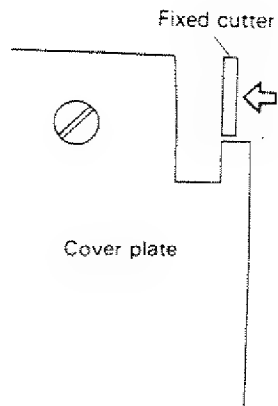
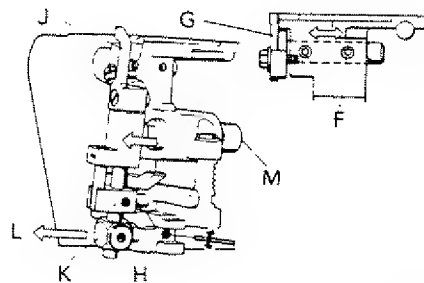

Fig. 3
Fig. 4
10. Loosen screws(F) by hexagonal screw driver and align fixed cutter(G) so that fixed cutter(G) lines up with cover plate as shown in Fig. 3.
11. Make sure that the top of fixed cutter is aligned with cover plate surface and then tighten screws(F) securely.
12. Loosen screw(H) by hexagonal screw driver and moving cutter will be pulled by spring until it touches with fixed cutter(G). Tighten screw(H) while you pull bearing(K) in direction of arrow(L). Make sure there is no gap between two cutters. (Fig. 4)